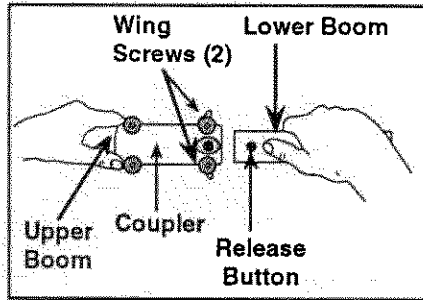

Fig. 4
1. Loosen the wing screws of the Split Boom® coupler. This will allow the lower (attachment) boom to be inserted into the coupler (Fig. 4).